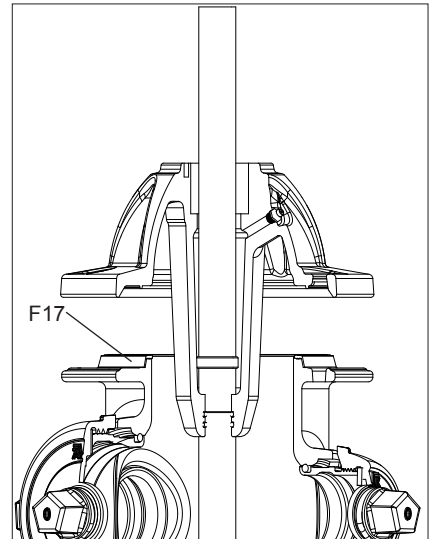

Fig. 7F
2. Verify that the Barrel Gasket (F17), is in place on top of the Nozzle Section. (See Fig. 7F) Carefully slide the Bonnet (F14), over the Upper Stem Rod (F16), taking care not to dislodge the Stem Seal O-rings (F15), or Barrel Gasket. Carefully rotate the bonnet until the grease zerk or oil, brass plug is in the desired positioning.
8. Verify that the Barrel Gasket (F17), is in place on top of the Nozzle Section. (See Fig. 7F) Carefully slide the Bonnet (F14), over the Upper Stem Rod (F16), taking care not to dislodge the Stem Seal O-rings (F15), or Barrel Gasket (F17).